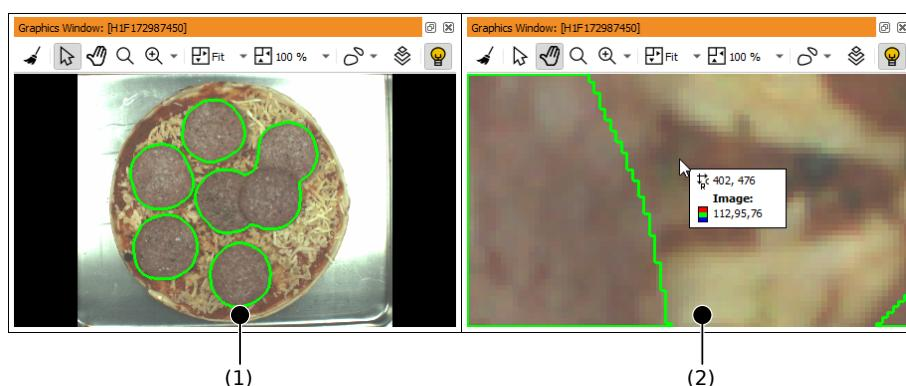

Figure 6.77: Graphics window displaying a tasty pizza: (1) full view, (2) zoomed in with pixel information.
Figure 6.77 (1) shows an example graphics window which is displaying a color image of a pizza overlaid with region data (the segmented salami slices). One of the displayed regions is selected (illustrated by the dashed border). The variable name and index of the selected region is displayed in the title bar.
The origin of the image coordinate system is the upper left image corner with the coordinates (0,0). The x values (column) increase from left to right, the y values (row) increase from top to bottom. When the mouse cursor is placed inside a graphics window, the coordinates (*row*, *column*) and the gray value (or in this case: the RGB values) at that position are displayed in the status bar (see page 48). Sometimes, it is desirable to display this information close to the mouse cursor. This can be achieved by holding down the **Ctrl** key (note: this does not work when the zoom in and out tool is selected since pressing **Ctrl** inverts the corresponding zoom action). Figure 6.77 (2) shows the coordinate/color value display after zooming in with the mouse wheel.
In the example image illustrated in figure 6.77 on page 154, the displayed image of a pizza is overlaid with region data. A single region is selected.